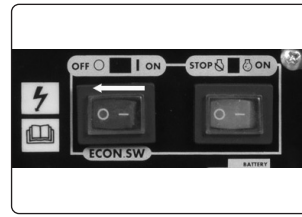

fig.11
- 6.4.2. Turn the ECS to “OFF” fig.11.